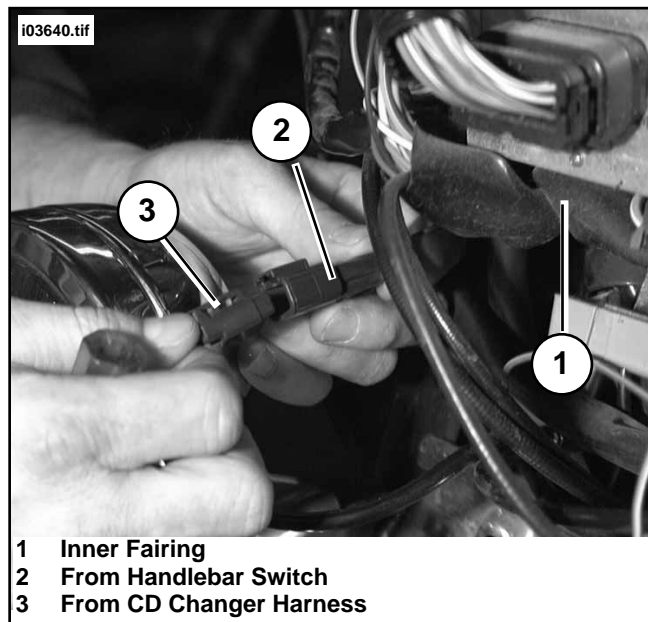

Figure 22. Connect Switch to Harness
- See Figure 22. Follow instructions under "Installing 3-Place Switch Deutsch Connector" on the following page and install the TRACK/DISC switch 3-wire pins to the connector (9). Install Wedgelock (12).
- Repeat Steps a through c for the Track and Disc Advance Switch and three pin connector (8). Install wedge lock (11).
- See Figure 22. Connect the male and female halves of the ON/OFF and Track and Disc Advance connectors. Use wire ties (22) to secure wires in place and tuck in around instrument wiring.